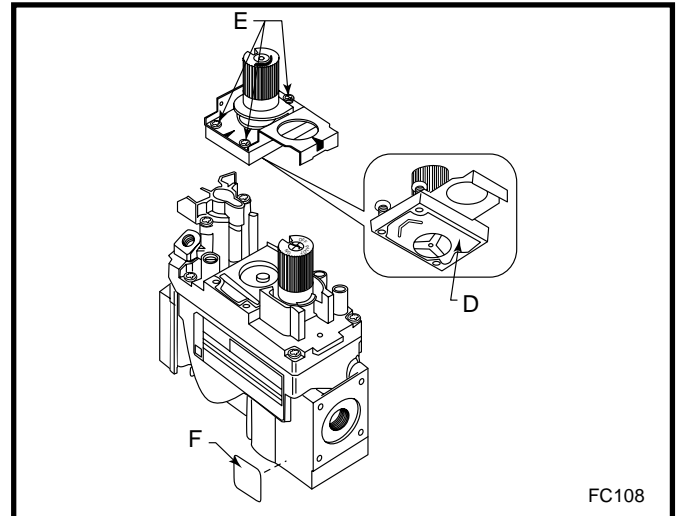

Fig. 58 Replace regulator.
2. Insure the rubber gasket (D) is properly positioned and install the new HI/LO pressure regulator assembly to the valve using the new screws (E) supplied with the kit. Tighten the screws securely. (Ref. torque = 25 in/lb) (Fig. 58)
3. Install the enclosed conversion label (F) to the valve body where it can easily be seen. (Fig. 58)